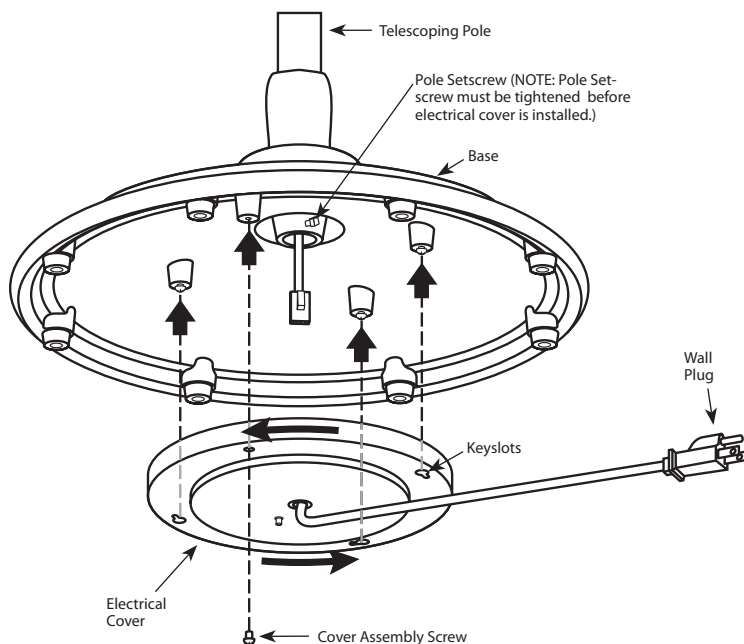

FIGURE 2
8. Place the Electrical Cover against the bottom of the Cast Iron Base and align the Keyslots in the Electrical Cover with the three loosened Cover Assembly Screws. Rotate the Electrical Cover counterclockwise. See Figure 2.